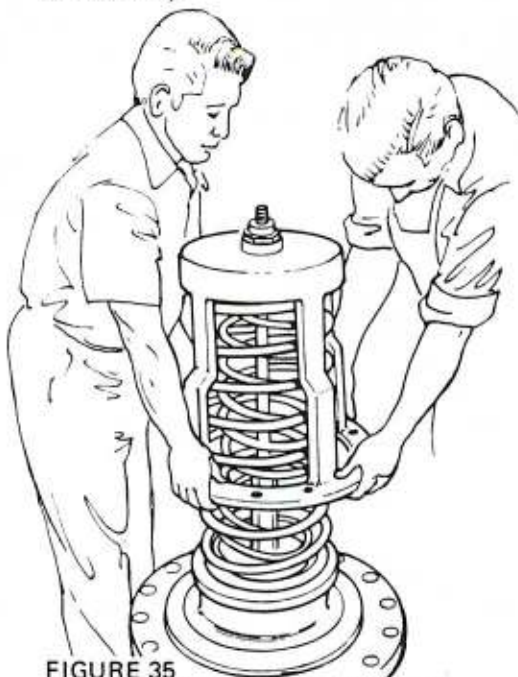

FIGURE 35
- g. Remove the nut; then remove the spring retainer (3) and spring (7) (Fig. 35 and 36).